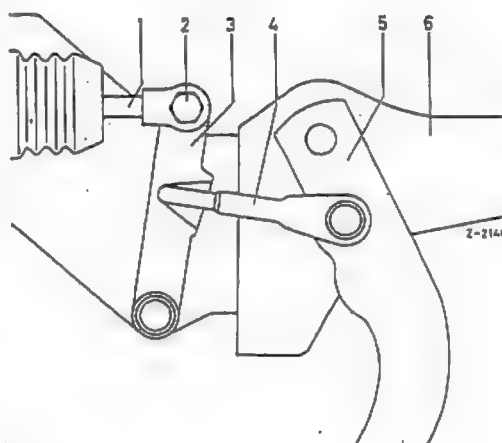

Fig. 42-20/3
1. On all models with the exception of Model 230 SL, turn the adjusting screw (3a) until the notch in the hexagon head points toward the rear. In this position the maximum brake pedal travel is obtained (Fig. 42-20/2).